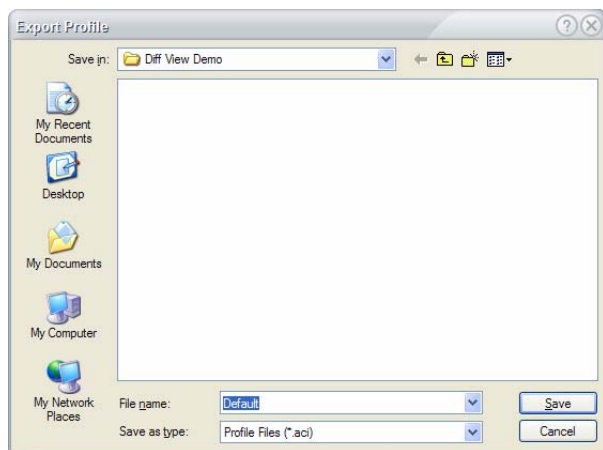
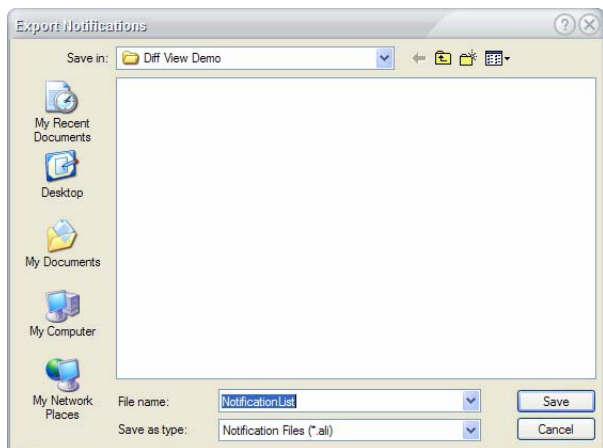

Figure 12-7: Exporting a profile
Figure 12-8: Exporting a list of notifications
- 2) Click  (Export Profile and Notification). The Export Profile dialog box appears. See Figure 12-7 and Figure 12-8.
Each AirMagnet Enterprise policy profile consists of two types of files: Profile Files (.aci) and Notification Files (.ali). Then exporting a policy profile, you are required to export both the profile (i.e., .aci file) and the notification list (i.e., .ali file) that is used in the profile. For this reason, you will see two different dialog boxes that appear one after the other as shown in Figure 12-7 and Figure 12-8.
- 3) Specify the export destination and click **Save**. The Export Profile dialog box closes and the Export Notifications dialog box appears. See Figure 12-8.
As shown in Figure 12-7 and Figure 12-8, Profile Files use the .aci file extension while Notification Files use the .ali file extension. The two files are related and, therefore, should be stored in the same location. This will make importing the policy profiles much easier.